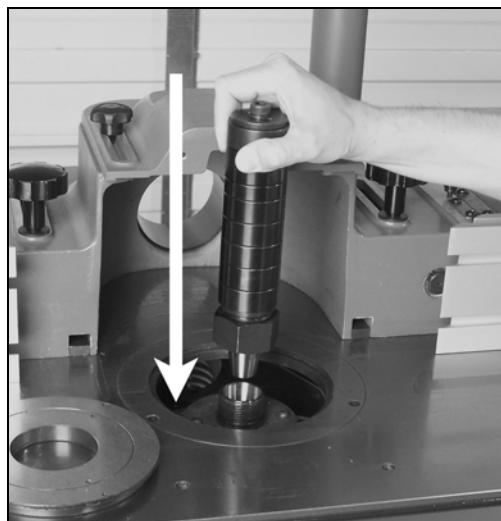

Figure 7
5. Lower the spindle into the quill as show in Figure 7. Carefully screw the spindle onto the threads taking extra care not to cross thread.